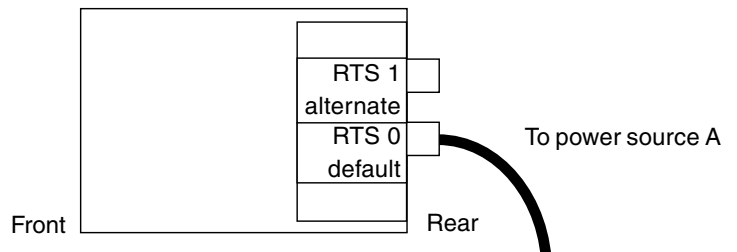

FIGURE A-9 One RTU Assembly and One AC Power Sources
- In configurations with one RTU assembly and one AC power sources there will be only one cable to connect (in the rear of the system on the left) (FIGURE A-9).